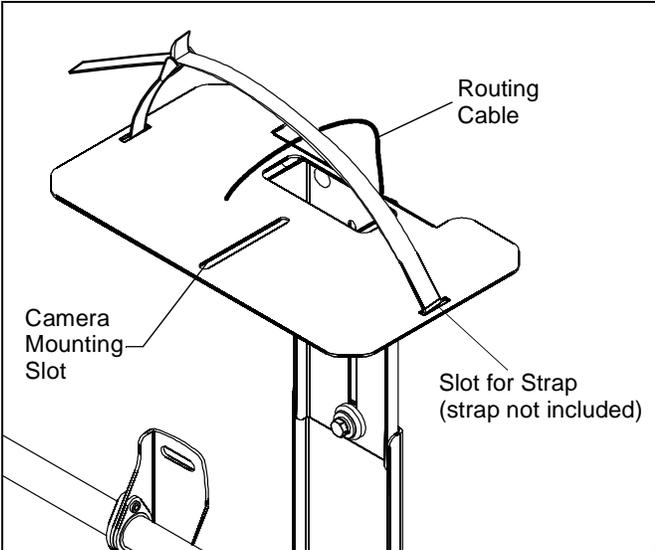

Figure 7
NOTE: If camera has a bottom mounting screw, attach it through the mounting slot in the shelf. (See Figure 7)
- Route cable from camera towards back of shelf and down behind the FVS100/FVS250. (See Figure 7)
NOTE: Slots are provided in the shelf to allow use of a strap (not included) to hold camera on shelf. (See Figure 7)